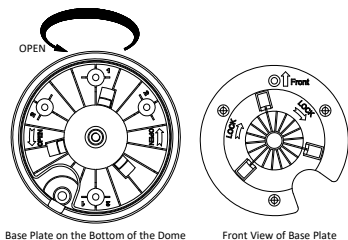

Figure 2-42 For DE2xxx Series PTZ Camera
4. Attach the junction box to the ceiling and secure it by aligning the holes with two screws and rotating the junction box according to the direction as shown in Figure 2-42. Make sure the front arrows